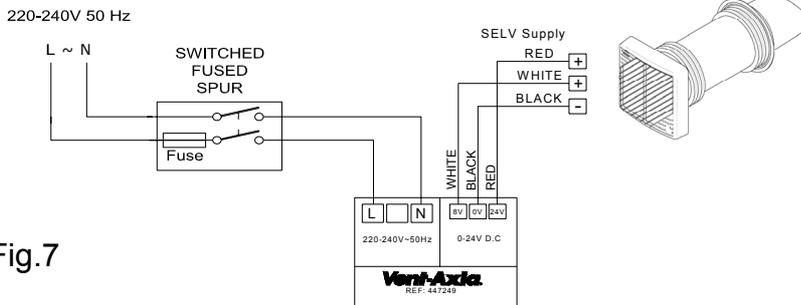

Fig.7
3. The mains input to the power supply unit must be routed via the rear of a single gang surface mounted back box (not supplied). **NOTE: Mains wiring must be kept separate from the SELV wiring.** The mains connection is to the terminals marked L & N (Fig.7)
6. Connect the 5m cable supplied to the red, white and black low voltage supply via the terminal block. (Fig. 7) **NOTE: Red is positive high speed, white is positive low speed and black is negative. This polarity must be maintained at the unit connections.**